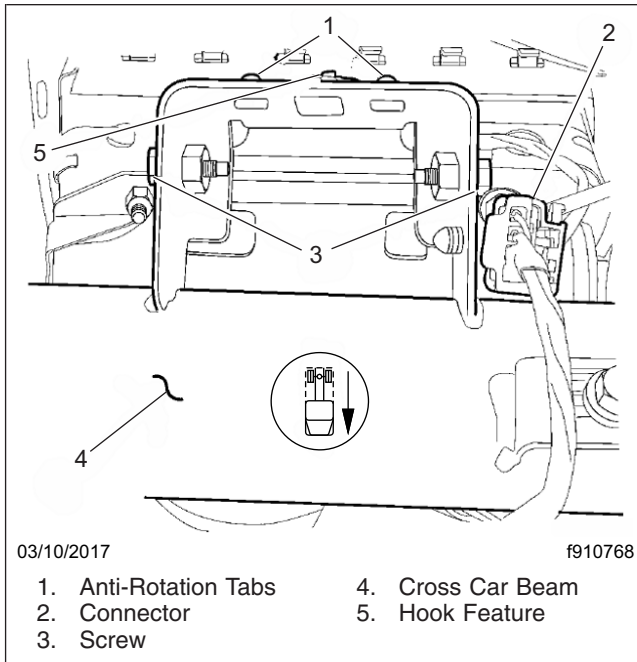

Fig. 3, Airbag Mounting and Connector (viewed from below)
6. Reach up into the dash between the upper glove box opening reinforcement and the cross car beam and disconnect the dash wire harness from the airbag inflator pigtail wire connector. The connector is located on the right-hand side of the airbag support bracket. See Fig. 3. To disconnect the connector, slide the red Connector Position Assurance (CPA) lock on top of the connector toward the side of the connector, then depress the latch tab and pull the two halves of the connector apart.
18. Carefully position the airbag and airbag cover panel into place in the dash. Make sure the hook feature is engaged in the airbag support bracket and the anti-rotation tabs on either side of the hook are engaged in the two holes in the airbag lower bracket. See Fig. 3.